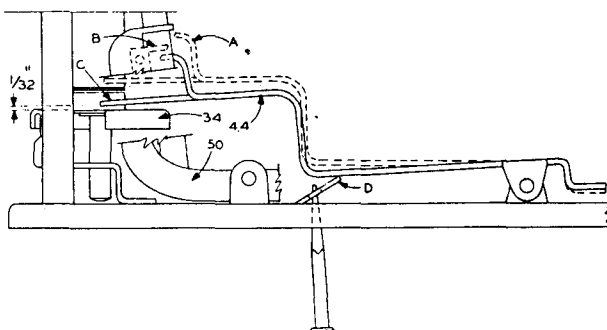

Fig. 8
1. Bend the elevated hook "A", Fig. 8 forward so that it will overlap the Push Off Post bracket "H" about  $\frac{1}{32}$ " with a record on the spindle.